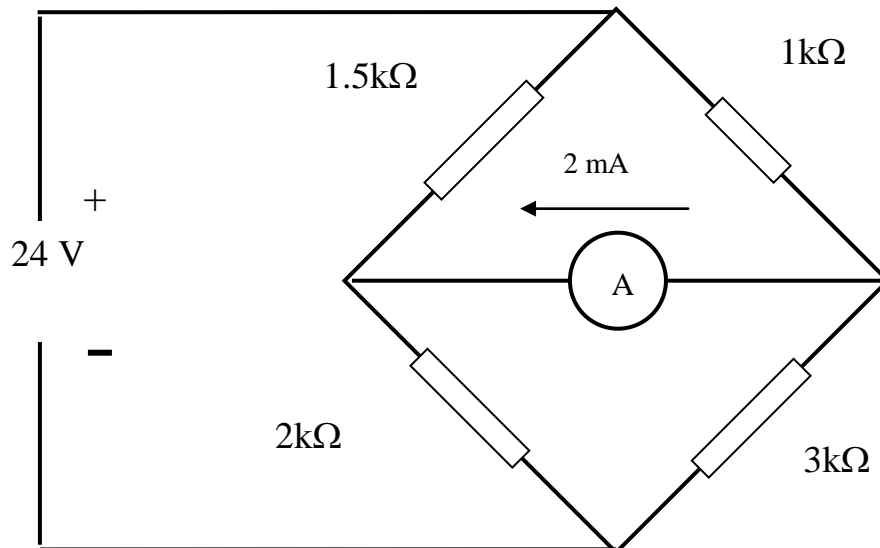

Fig Q1
1. In the network shown in Fig Q1 the meter indicates 2 mA in the direction shown.